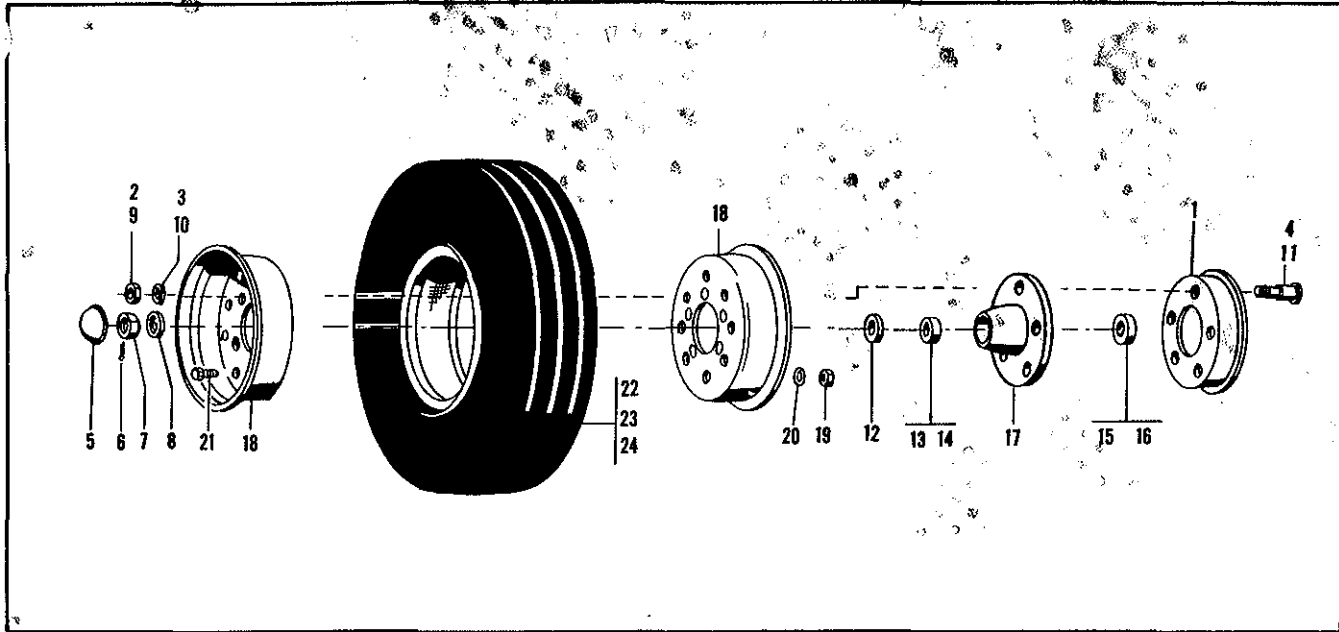

Figure 3. Wheel, Hub, Tire and Tube Assembly
**Previously listed, Figure 3, indexes 2, 3, 4.
\*Previously listed, Figure 3, index 1, for disassembly sequence.